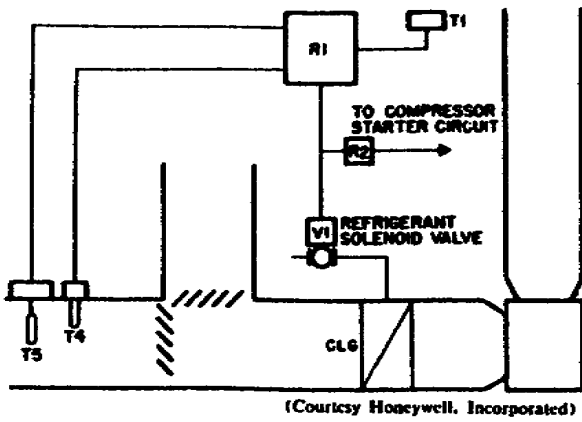

Figure 134. Refrigerant solenoid valve control system.
6. **Refrigerant Solenoid Valve Control.** The electron control panel R1 in figure 134 will control space temperature by coordinating signals from the space thermostat T1 and the outdoor thermostat T4 to operate the refrigerant solenoid valve V1. T4 will raise the space temperature as the outdoor temperature rises to a predetermined schedule. T5 will remove T4 from the system when the outdoor temperature falls below the setting of T5 to prevent subcooling of the space at low outdoor temperature.